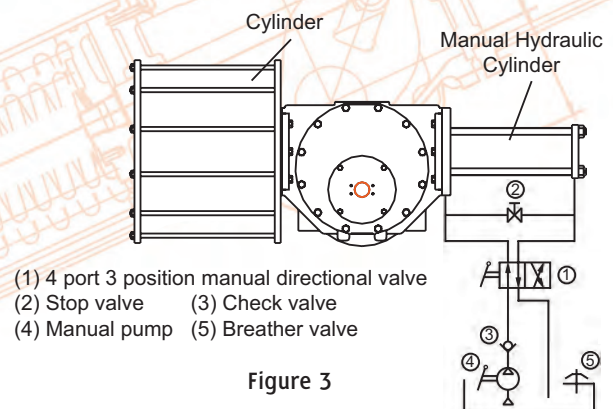

Figure 3
The hydraulic manual over-ride is optionally available for model JA350 double acting pneumatic & hydraulic actuators (refer Figure 3 & 3A) the manual operating device is a hydraulic over-ride with a hand pump. When manual operating is required, firstly open the equalising valve (2)
(Also refer Figure 3)